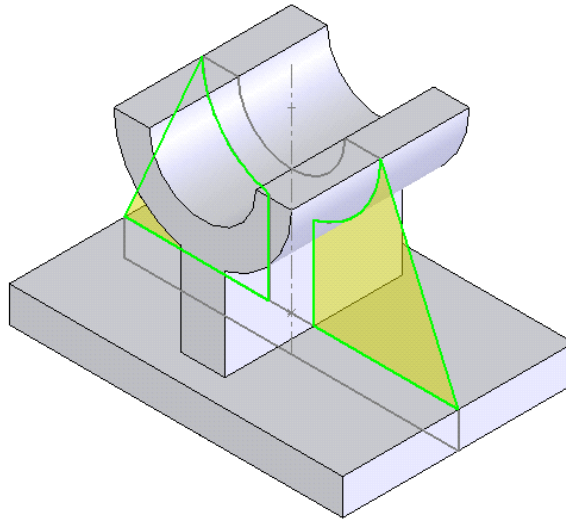

Figure 5-75 The right and the left contours selected using the contour selection tool
- d. Select the third set of contour and extrude it to the required distance, refer to Figures 5-75 and 5-76.
The two selected contours are shown in Figure 5-75.